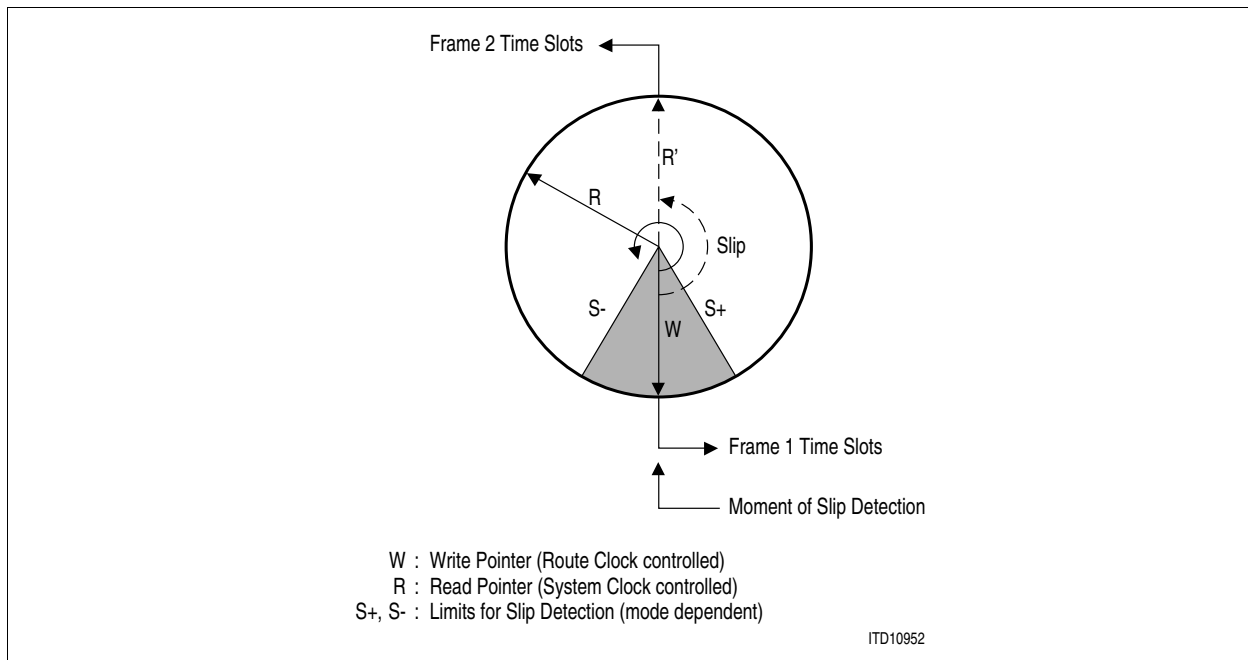

Figure 28 The Receive Elastic Buffer as Circularly Organized Memory
Figure 28 gives an idea of operation of the dual receive elastic buffer: A slip condition is detected when the write pointer (W) and the read pointer (R) of the memory are nearly coincident, i.e. the read pointer is within the slip limits (S +, S –). If a slip condition is detected, a negative slip (one frame or one half of the current buffer size is skipped) or a positive slip (one frame or one half of the current buffer size is read out twice) is performed at the system interface, depending on the difference between RCLK and the current working clock of the receive backplane interface. I.e. on the position of pointer R and W within the memory. A positive/negative slip is indicated in the interrupt status bits ISR3.RSP and ISR3.RSN.